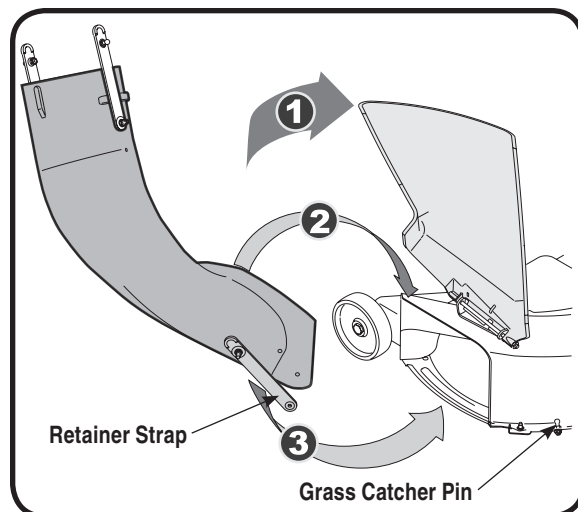

Figure 5-5
4. Raise the chute deflector on the deck and hold it while you position the discharge chute over the chute opening. See Fig. 5-5.
7. Lock the discharge chute in position by hooking the retainer strap over the grass catcher pin on the deck. See Fig. 5-5.